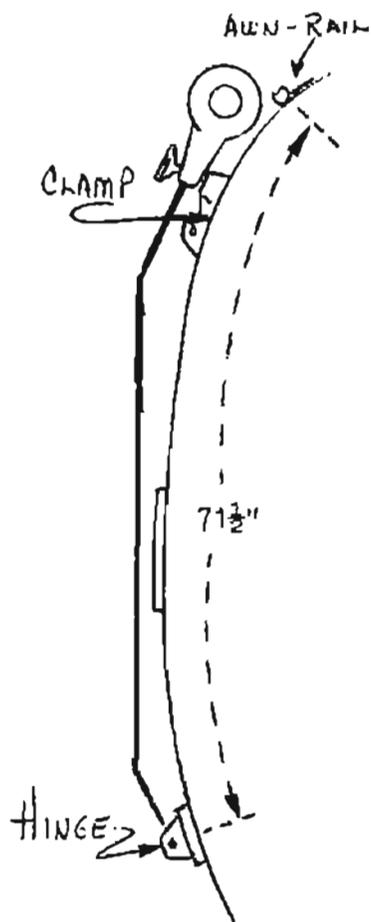

Fig. 2
- LIFT EACH ARM AGAINST COACH AND MARK EXACT LOCATION OF CLAMP. AS SHOWN IN FIG. 2.